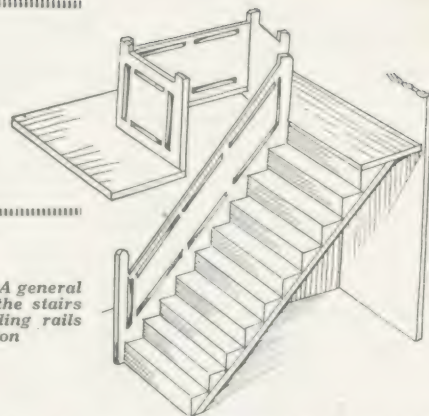

Fig. 1.—A general view of the stairs and landing rails in position
The sketch (Fig. 1) gives an idea of the finished staircase, the end wall of the house being removed to show its construction.
the short flight of steps. It can be clearly seen in the sketch Fig. 1.
The various brake wheels are obtainable from Merco, and are very tiny, exactly to scale for the purpose. They can be soldered to common lengthy pins in the manner shown in Fig. 1 (G). The pin is pushed through the hole in the wheel and through a piece of cardboard, is arranged to project at exactly a true angle, and the wheel touched with spirits and solder.
The buffers are also soldered into holes drilled in the buffer beams, exactly in place, their centres 14 mm. above the rail. If Lanal couplers are desired, the loco type should be used, these being soldered to the beam. The hook can be pivoted to a pin soldered to the two floors. For jacks, use some bogie blocks of the largest size, sweating these on the four corners of the crane wheel-frames, as shown in Fig. 1 (F) and (H).
The work of building up the jib was done on the piece of stripwood, which should be of  $\frac{1}{2}$  in. by  $\frac{1}{2}$  in. section, and the cross-pieces were soldered on in the manner shown in Fig. 1 (B), being afterwards trimmed clean. In (A) is shown the method of forming metal girder-work generally, this time the card strip is laid flat.
The crutch can be made in the manner shown in Fig. 1 (D) very simply. Here, there is employed for the purpose, part of a white metal toy wheel taken from a broken Britain's farm toy.